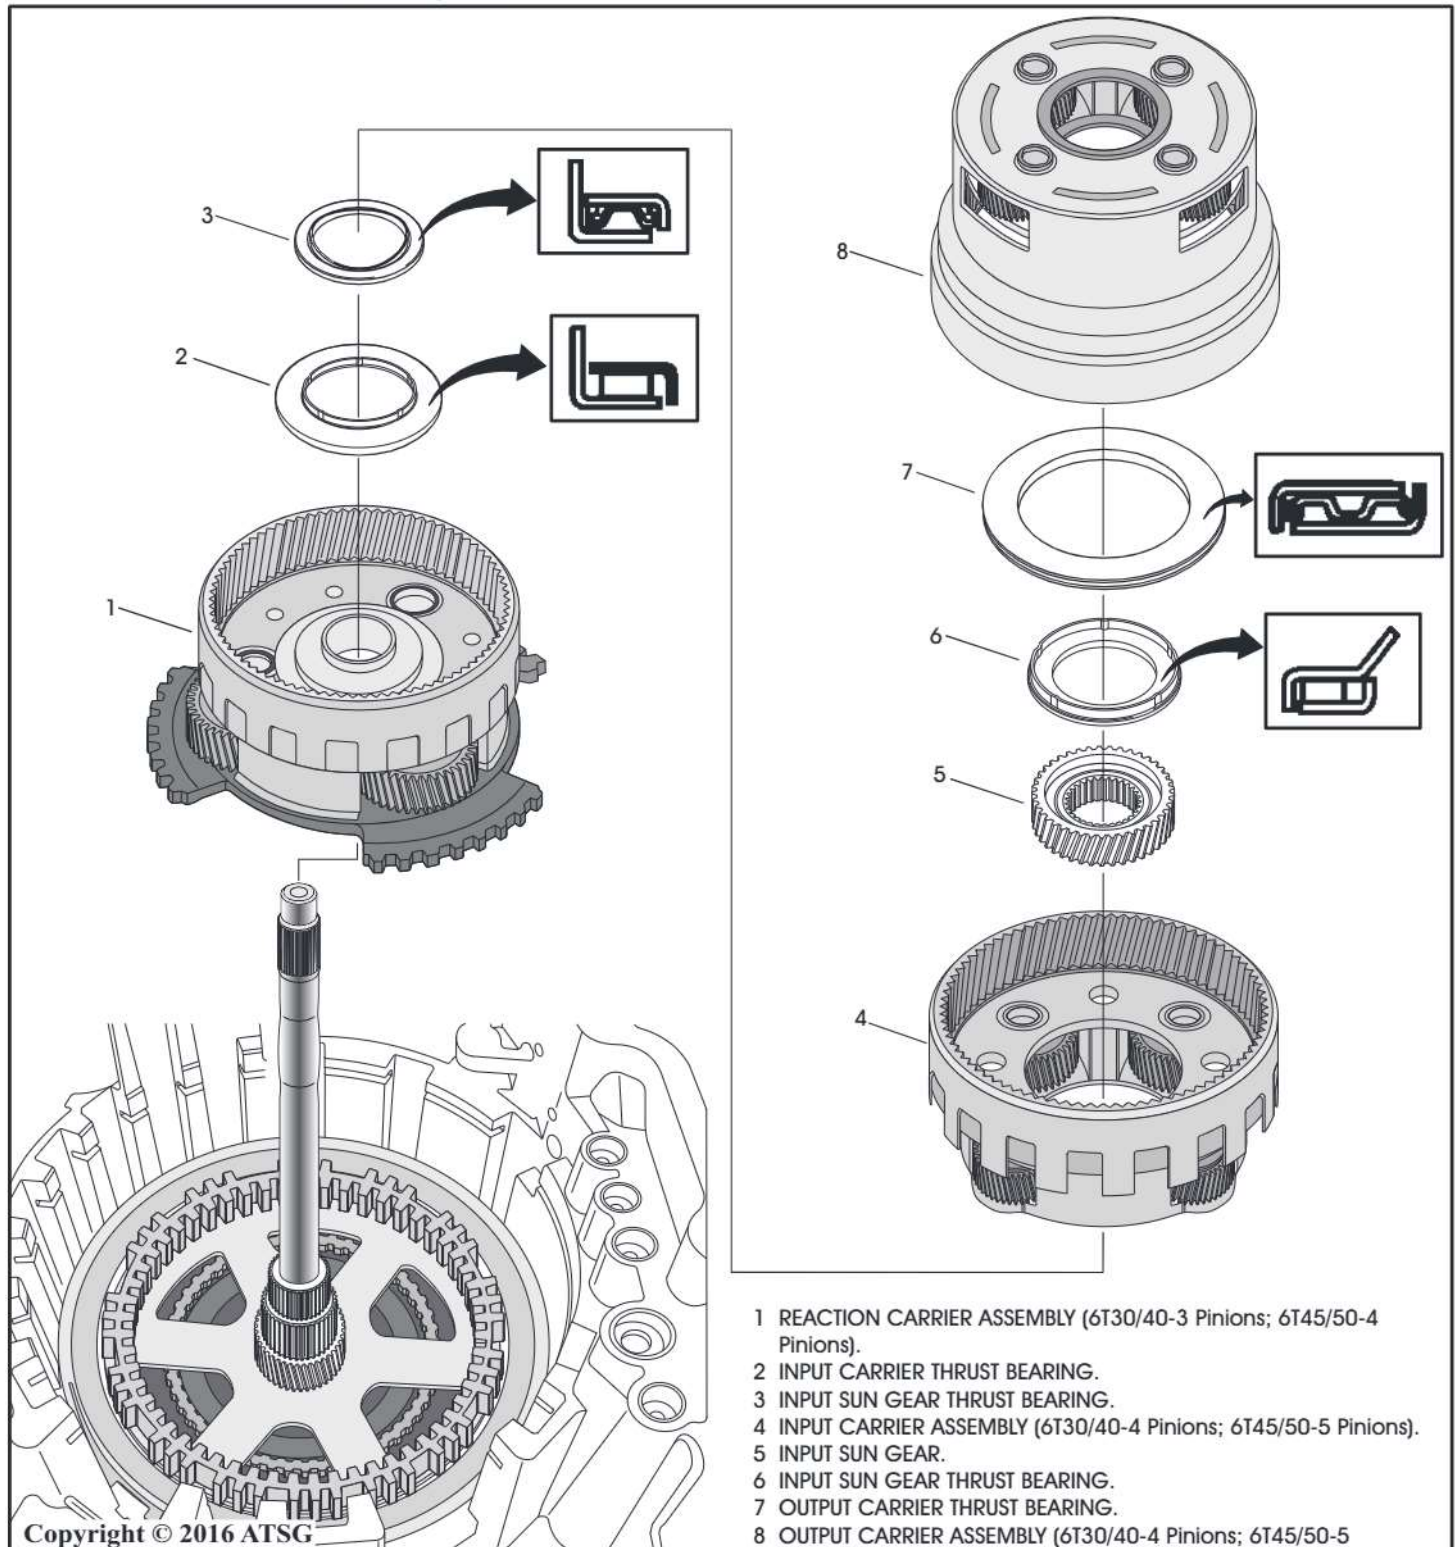

Figure 157
52. Install the reaction carrier into the low one-way clutch splines as seen in Figure 157.
53. Lubricate and install the input carrier thrust bearing and input sun gear thrust bearing as seen in Figure 157.
54. Install the input carrier, and the input sun gear as seen in Figure 157.
55. Lubricate and install the input sun gear thrust bearing and the output carrier thrust bearing as seen in Figure 157.
56. Install the output carrier as shown in Figure 157.